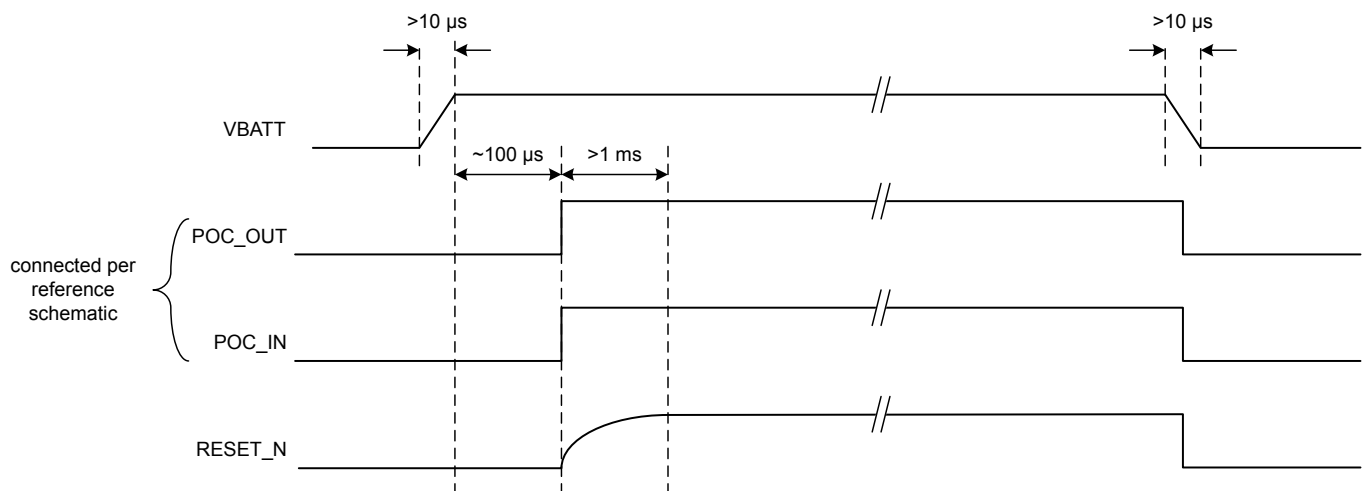

Figure 7.1. Power Up Sequence
- **RESET_N:** RESET_N is an open-drain signal which will be pulled low during a chip reset. It is released after POC_IN is high. RESET_N should be connected to an RC circuit to fulfill the timing requirements shown in Figure 7.1 Power Up Sequence on page 30.
Figure 7.1 Power Up Sequence on page 30 shows the signal timing when POC_OUT, POC_IN, and RESET_N are connected per the recommended schematic. The POC_IN-to-RESET_N delay will occur when POC_IN transitions from low to high. VBATT in the figure refers to the connection of UULP_VBATT_1 and UULP_VBATT_2 (connected together in the schematic).